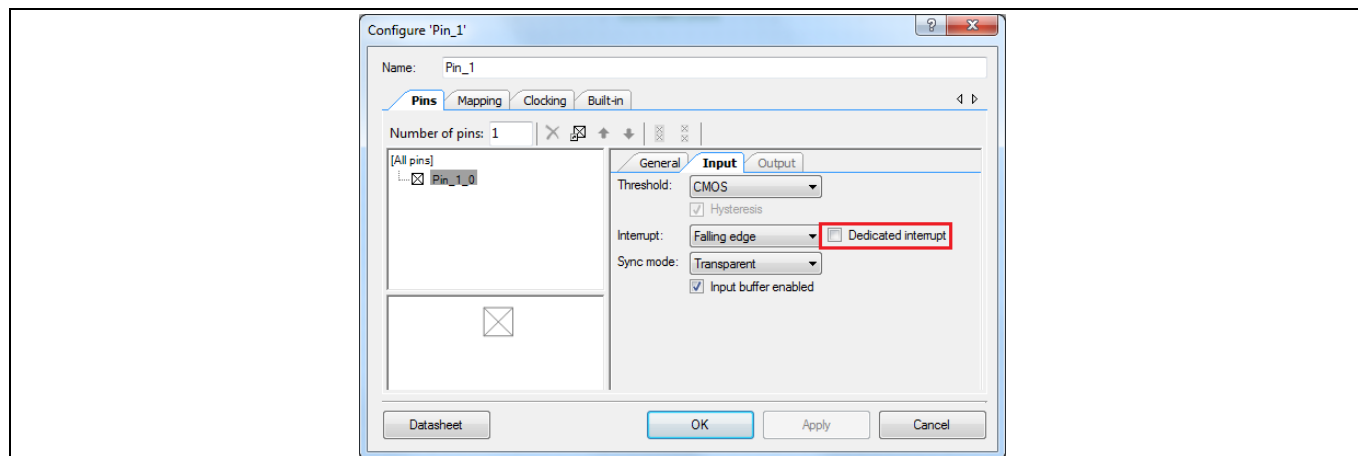

Figure 21 Pin properties for combined interrupt
2. Configure the pin interrupt. Ensure that dedicated interrupt is unchecked, see Figure 21.